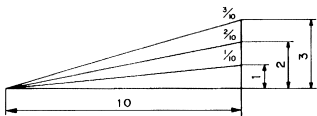

Fig. 33
- (4) The gradient, which is the ratio of the height to the base of the triangular section to be removed, may be used for setting the miter scale instead of the cutting angle, if desired (see Fig. 33).